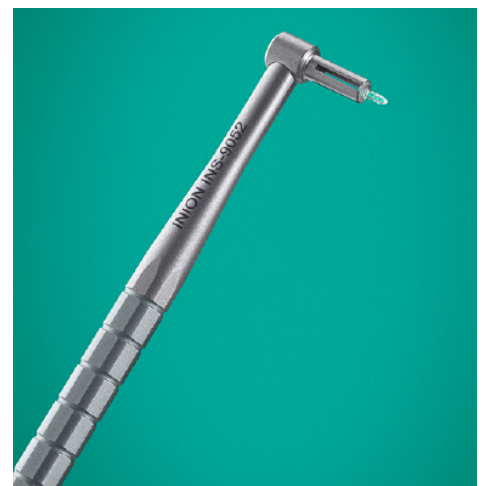

Fig. 2 Re-usable Tack Applicator, INS-9052
- Simple Tack loading using the Tack Applicator (Fig. 2)